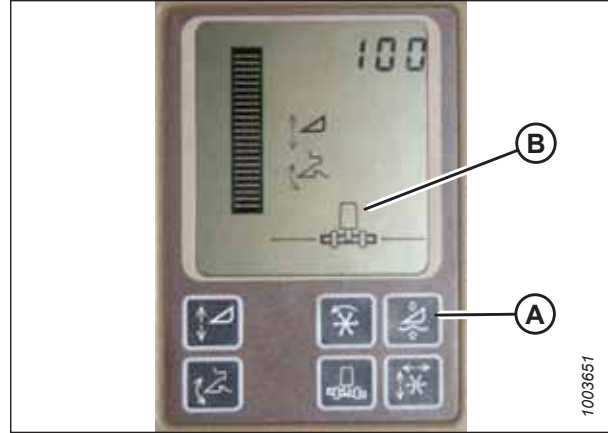

Figure 4.150: John Deere Combine Display
Do **NOT** use active header float function (A) in combination with the AHHC system; the two systems will counteract each other. Header symbol (B) on the display should **NOT** have a wavy line under it and should appear exactly as shown on the Active Header Control Display in Figure 4.150, page 176.